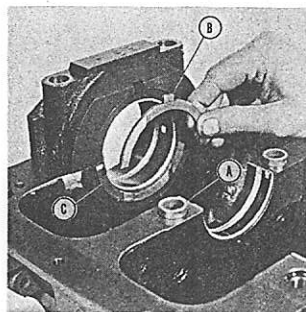
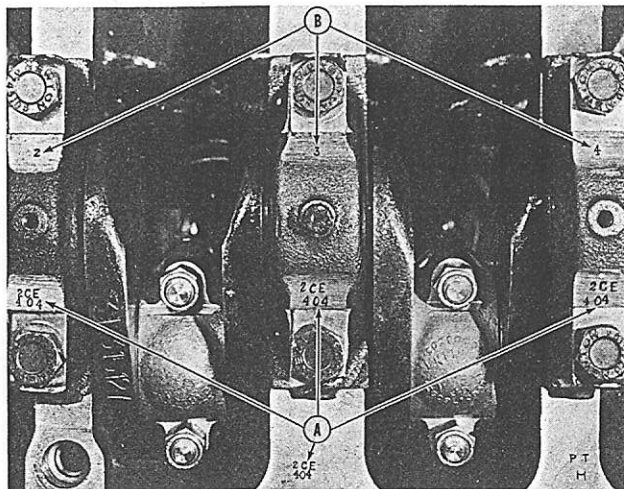

Fig. 130—Renewable thrust washers (B & C) control crankshaft end play. Main bearing caps are positively located by ring dowels (A).
Fig. 129—Matched block and bearing caps bear a stamped serial number (A). Bearing caps are numbered front to rear as shown at (B).
Main bearing caps are numbered from front to rear as shown at (B—Fig. 129). Block and cap bores are machined with caps in place and caps cannot be interchanged. Block and caps are stamped with a serial number (A) when the machining operation is performed. When installing caps, cap serial number must be on same side of block as the block serial number. Bearing caps are aligned to block by ring dowels as shown at (A—Fig. 130).
Crankshaft end play is controlled by renewable thrust washers (B & C—Fig. 130) at front and rear of rear main bearing. The cap half of thrust washer is prevented from turning by the tab which fits in a machined notch in cap. Block half of washer can be rolled from position when bearing cap is removed. Recommended crankshaft end play is 0.002-0.014 for all models. The 0.123-0.125 thick thrust washers (B & C) are available in 0.007 oversize as well as standard.